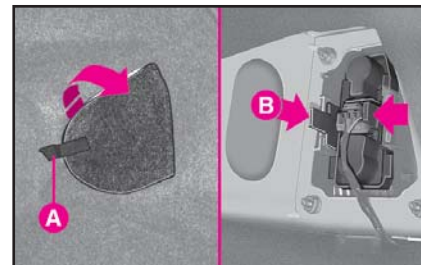

fig. 19
1) In order to reach the light unit, pull the connection element of the cover inside the boot section in upward direction (**fig. 19-A**).
2) Remove from its housing by pushing the light fixing clamps (**fig. 19-B**).